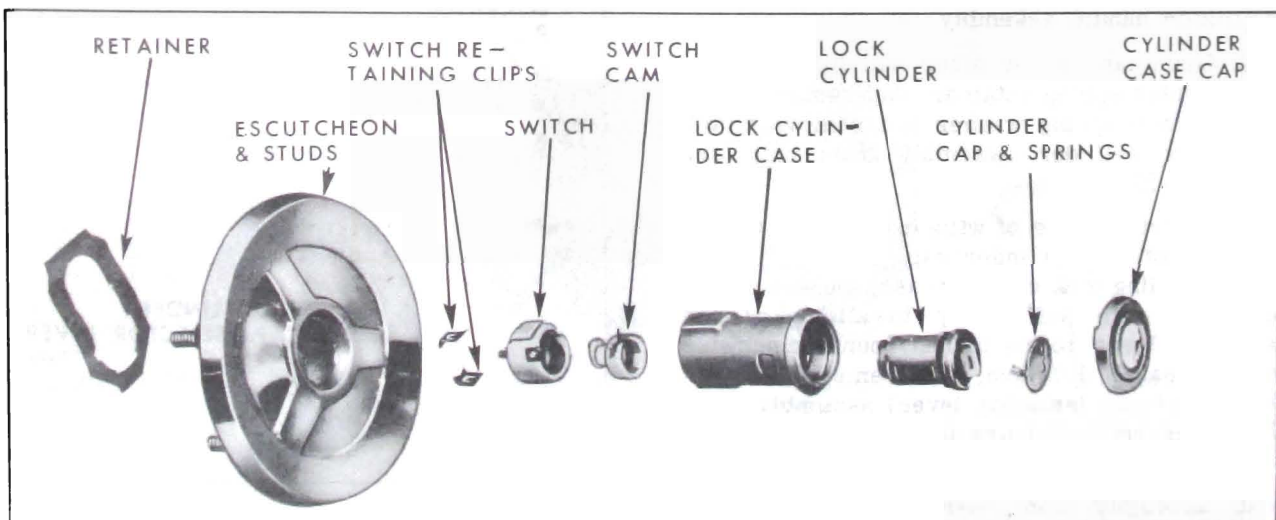

Figure 4-24—Disassembly of Window Electric Lock Cylinder and Switch
2. Disengage lock cylinder and switch retainer (Figure 4-24) and remove lock cylinder and switch assembly from escutcheon.
1. Using a pointed tool inserted through holes in lock cylinder case, depress tab of switch clips and remove clips (Figure 4-24).
2. Carefully pull switch and switch cam from lock cylinder case (Figure 4-24).